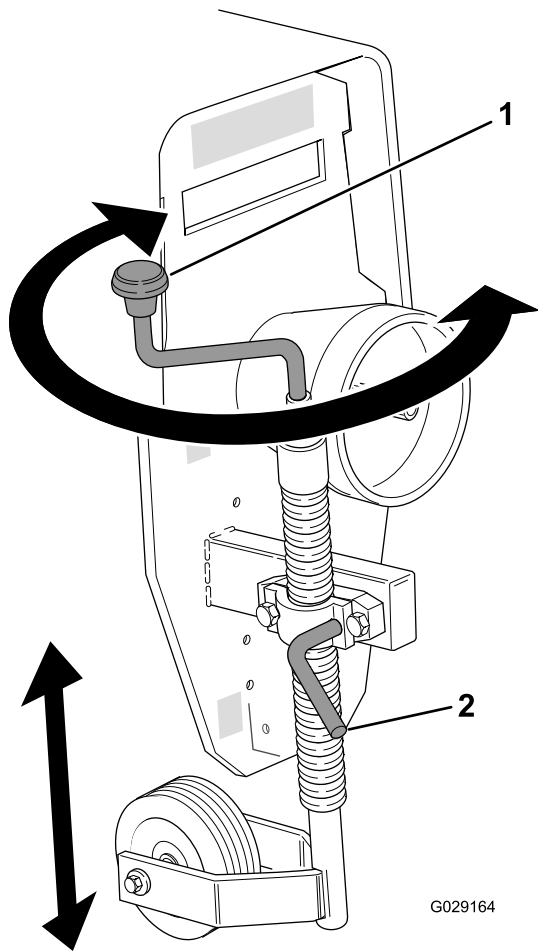

Figure 30
3. Support the mower on the jockey wheel as follows (Figure 30):